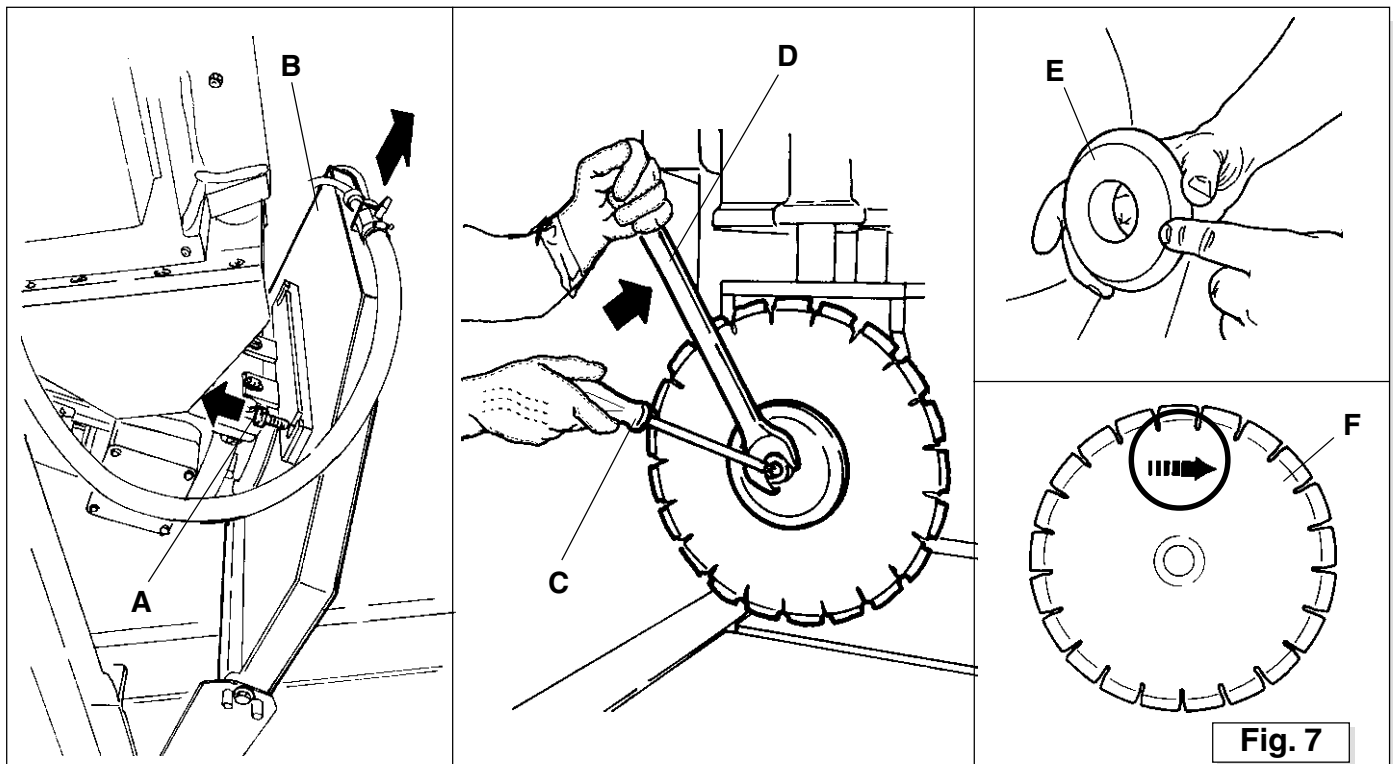

Fig. 7
1. Tilt the blade 45° and loosen the 2 screws **A** (Fig. 7) behind the blade guard with a 10mm wrench and remove the guard **B** (Fig. 7).
2. Hold the motor spindle **C** (Fig. 7) and unscrew the blade shaft nut (CW) clockwise using the 30mm wrench **D** (Fig. 7) supplied (only on FRS 51). For the FS-30 & 38, hold the motor shaft from turning with a 6mm hex key inserted into the back side of the motor and loosen the nut (CW) with a 19mm wrench.
3. Once the blade is removed, check the outer flange **E** (Fig. 7) and inner flange interior surfaces, and if needed, replace or clean them to remove any debris that might prevent the blade from properly seating inside the flanges.
- Note:** When using the thick-cored profile wheel on the FRS 51, do not use the outer flange **E** (Fig. 7).
4. Mount the new blade in the direction of the rotation arrow marked on the blade **F** (Fig. 7). It must be the same direction as the arrow on the blade guard. (clockwise from the front).
6. **Before using the machine be sure the blade guard is securely in place.** Re-install the blade guard **B** (Fig. 7) and securely tighten the 2 screws **A** (Fig. 7) using an M10 wrench.